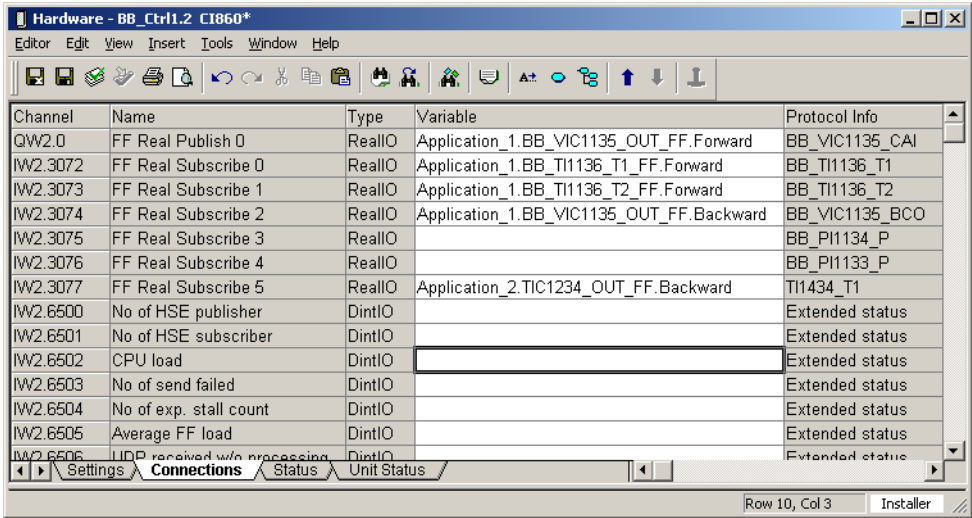

Figure 190. Hardware Editor of the CI860 Object
- 8. Open the hardware editor via the context menu by means of **Editor** (see Figure 190).